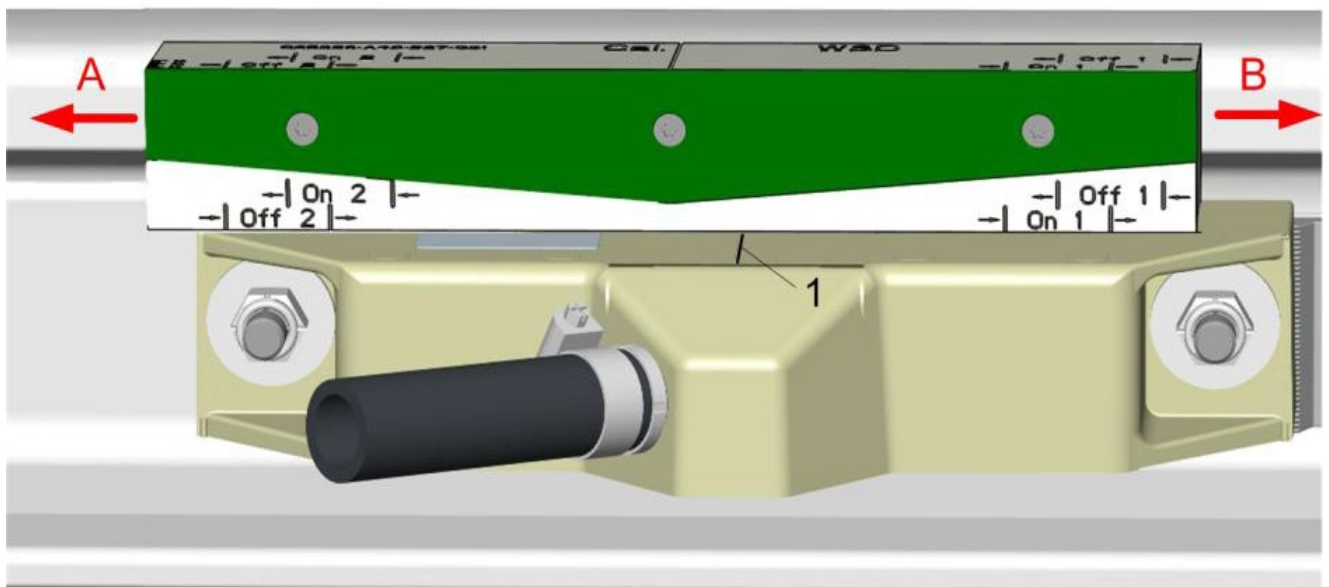

Figure 2 – Movement of the adjustment gauge towards A
1.4 Move the adjustment gauge along the rail over the wheel detector in direction A (see figure 2). The adjustment gauge should be in contact with the wheel detector and rail when doing so.